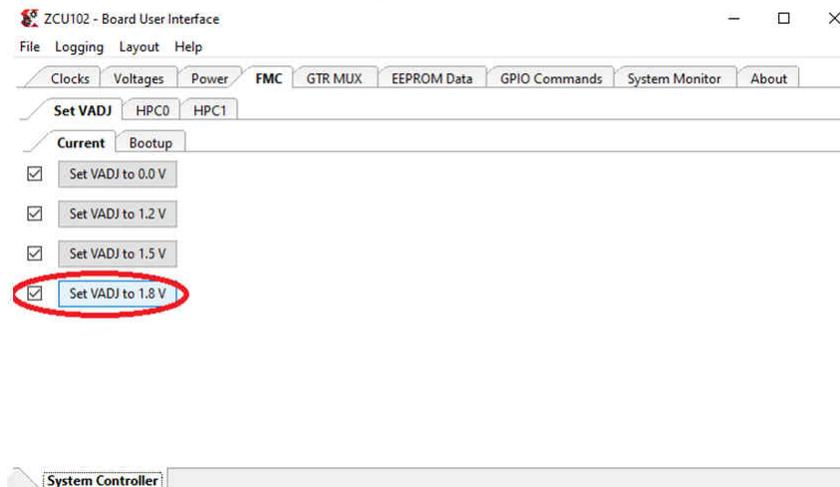

Figure 15-2. Setting VADJ
3. Select the *Set VADJ to 1.8 V* check box (see Figure 15-2).